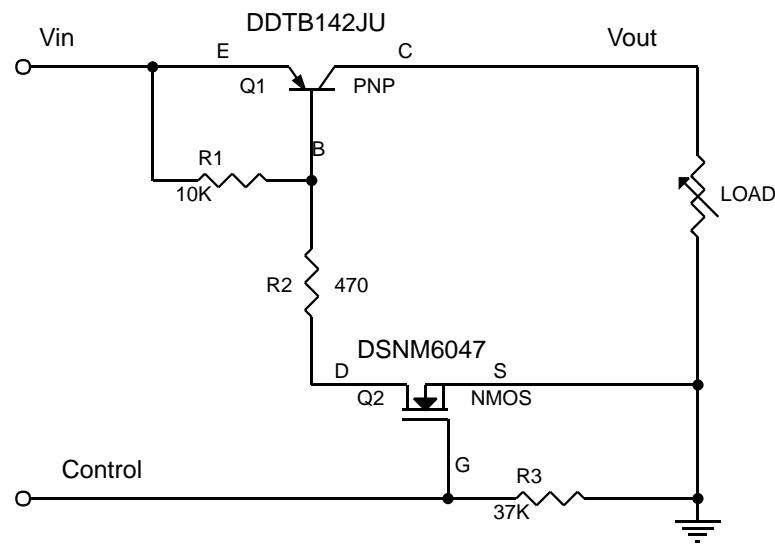

Fig. 19 Circuit Diagram
- PNP Transistor (DDTB142JU) and N-MOSFET (DSNM6047) with gate pull-down resistor integrated as one in LMN200B02 can be used as a discrete entity for general purpose applications or as an integrated circuit to function as a Load Switch. When it is used as the latter as shown in Fig 19, various input voltage sources can be used as long as it does not exceed the maximum ratings of the device. These devices are designed to deliver continuous output load current up to a maximum of 200 mA. The MOSFET Switch draws no current, hence loading of control circuit is prevented. Care must be taken for higher levels of dissipation while designing for higher load conditions. These devices provide high power and also consume less space. The product mainly helps in optimizing power usage, thereby conserving battery life in a controlled load system like portable battery powered applications. (Please see Fig. 20 for one example of a typical application circuit used in conjunction with voltage regulator as a part of a power management system)